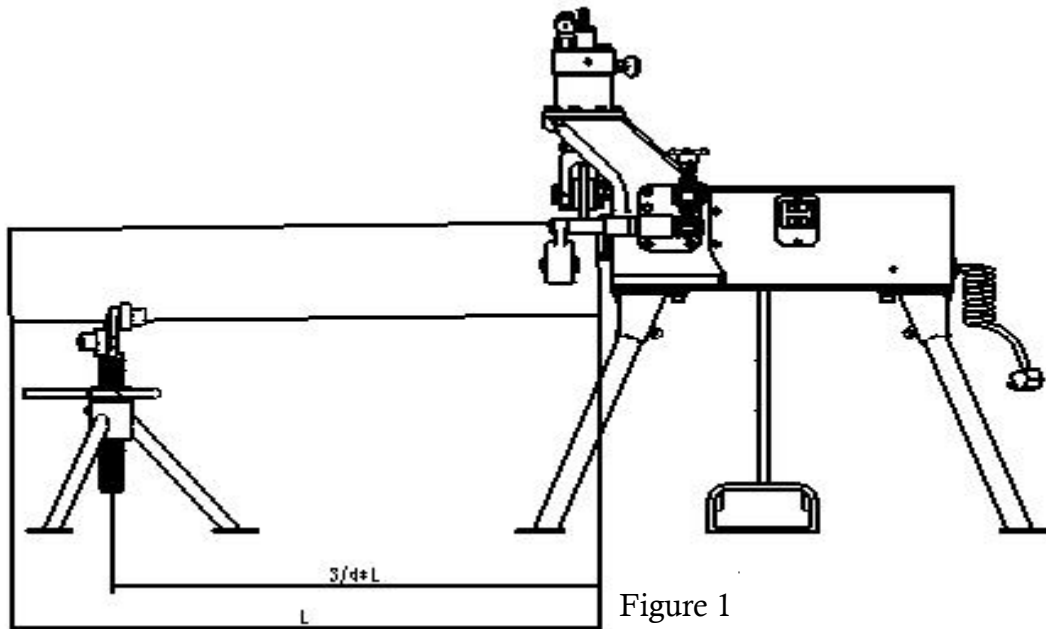

Figure 1
4. Make sure that the pipes to be grooved have appropriate support. When using one pipe stand, make sure the stand supports the pipe 3/4 of the total length from the grooved end. **Refer to Figure 1.**